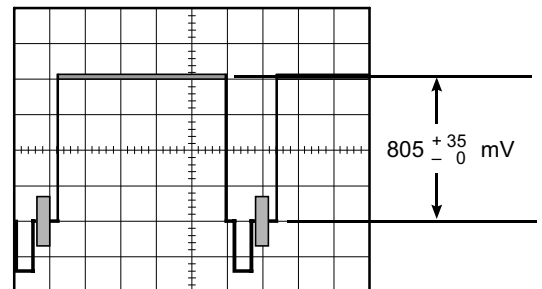

Fig. 4-19
- Confirm that the Knee level becomes $805 + 35 - 0$ mV as shown in Fig. 4-19.